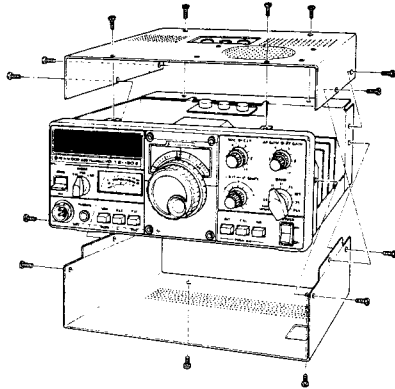

Fig. 14 Case disassembly
1. Remove the upper and lower cases as shown in figure 14, below.